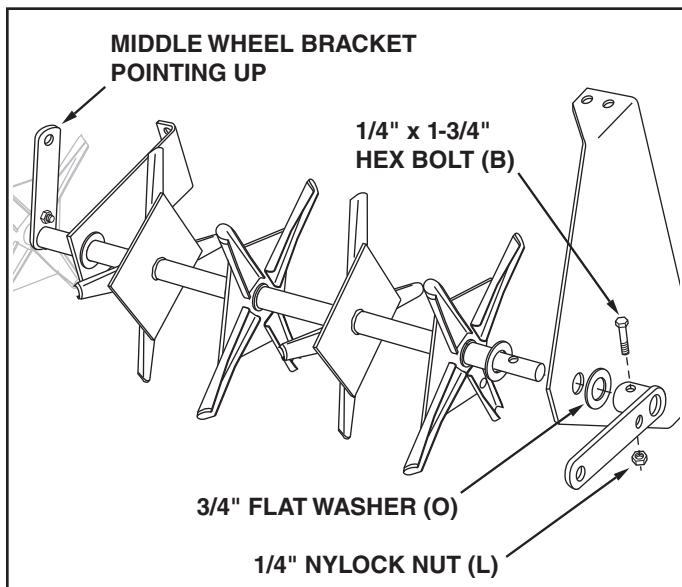

FIGURE 5
7. Rotate the wheel bracket fastened to the middle of the shaft so that it is pointing upward. Assemble an end plate, a 3/4" flat washer (O) and a second wheel bracket onto the **long end** of the shaft. Point this wheel bracket as shown in figure 5. Secure it to the shaft using a 1/4" x 1-3/4" hex bolt (B) and 1/4" nylock nut (L). **Tighten.** Repeat on short end of shaft.